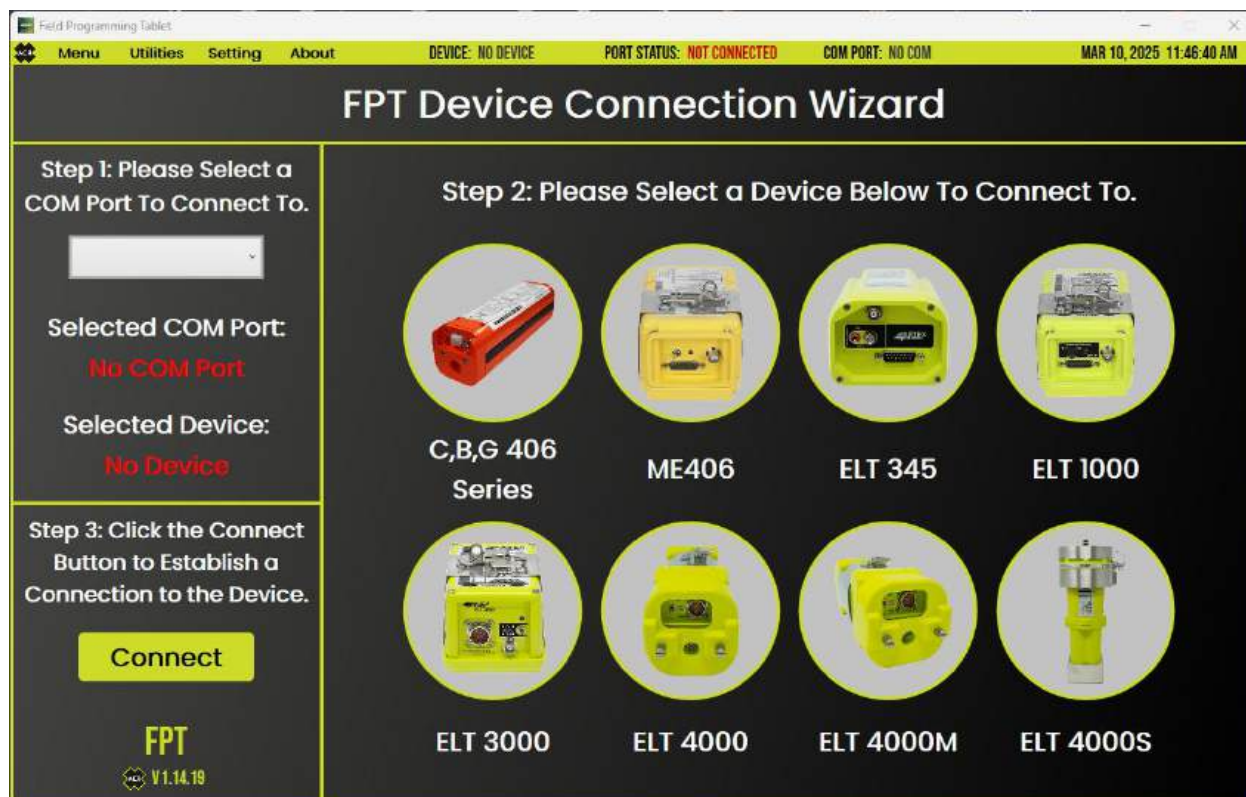

Figure 22 - FPT Disconnected
2. This disconnects the FPT from the current COM port and the Device Connection Wizard appears (Figure 22).